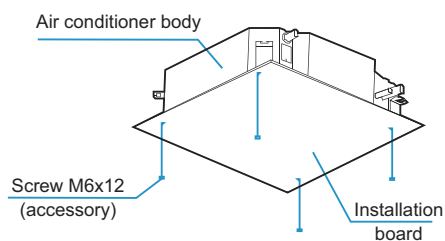

Figure 3.8
2. Once you have lifted and mounted the unit, use M6x12 screws (accessory 5) to secure the installation board (accessory 4) on the unit body. Make sure you verify the size and positions of the opening in the ceiling before you do so. See Figure 3.8.